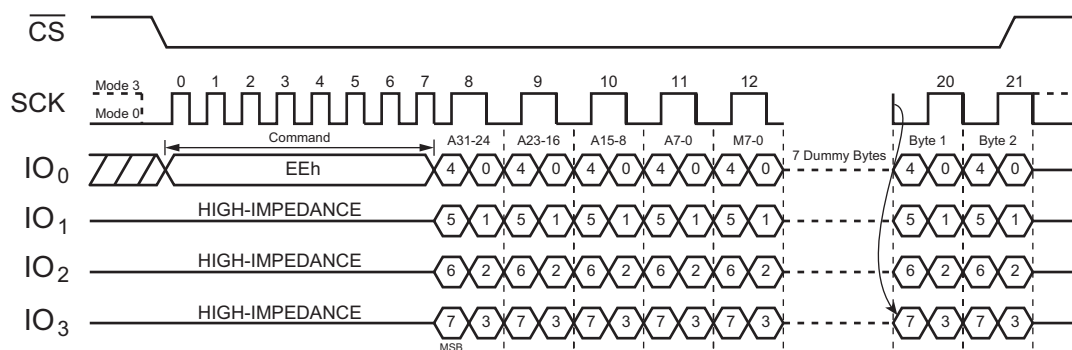
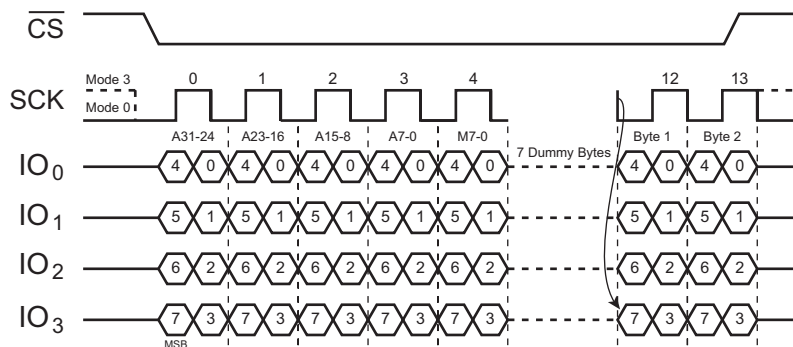

Figure 63. DTR Quad I/O Fast Read with Four-Byte Address (SPI Mode, Initial command or previous M5-4≠10)
Figure 66. DTR Quad I/O Fast Read with Four-Byte Address (QPI Mode; Initial command or previous M5-4=10)
The DTR Quad I/O Fast Read with Four-Byte Address (EEh) command is similar to the Fast Read Dual I/O (BBh) command except that address and data bits are input and output through four pins IO₀, IO₁, IO₂, and IO₃, as well as four Dummy clocks, are required in SPI mode before the data output, as shown in Figure 63 to Figure 66. The Quad Enable bit (QE) of Status Register must be set to enable.